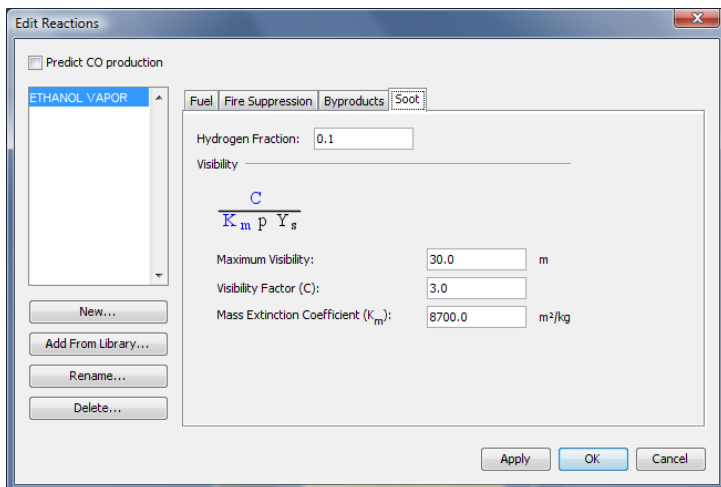

Figure 11.5. Soot panel of the Edit Reactions dialog
6. On the **Soot** tab, you can define the fraction of the atoms in the soot that are hydrogen, **Hydrogen Fraction** ($SOOT_H_FRACTION$) and the parameters that control visibility. See Chapter 12 of the Fire Dynamics Simulator User's Guide (McGrattan, et al., 2007). The default values are shown in Figure 11.5.